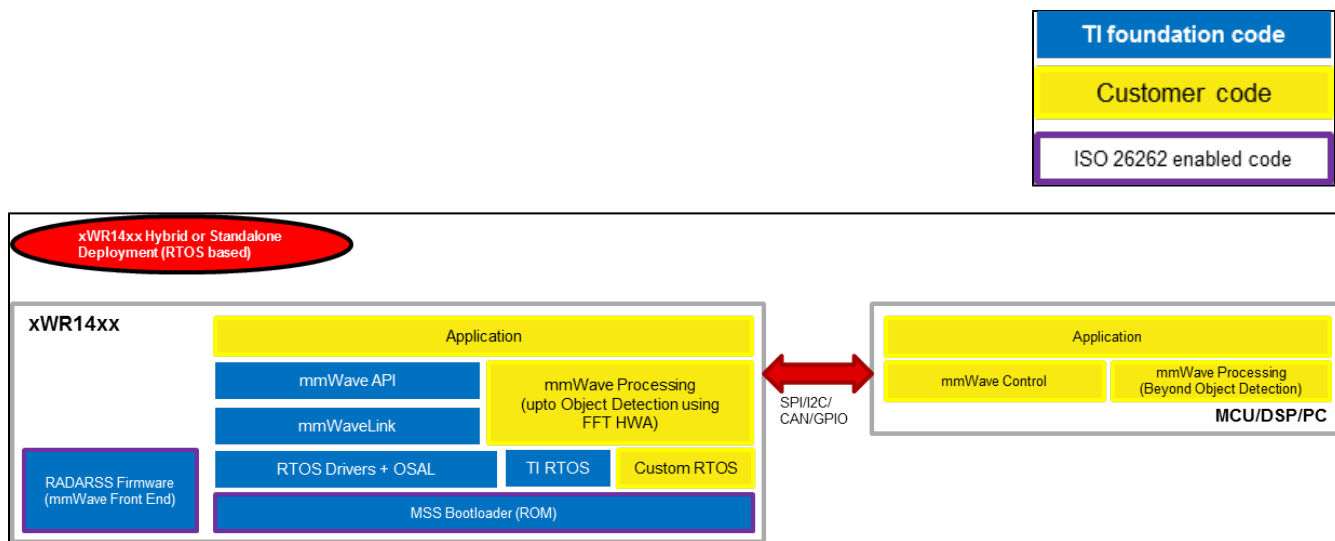
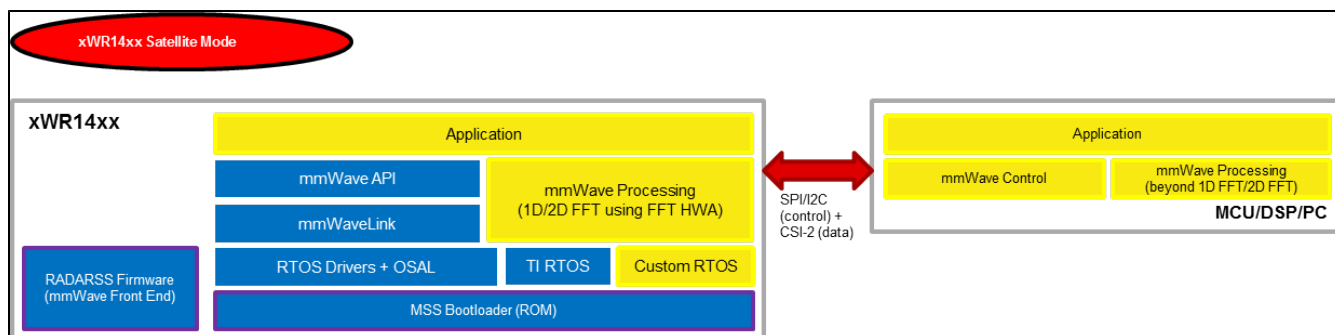

Figure 1: xWR14xx Deployment in Hybrid or Standalone mode
Figure 2: xWR14xx Deployment in Satellite mode
- Figure 1: xWR14xx Deployment in Hybrid or Standalone mode
- Figure 2: xWR14xx Deployment in Satellite mode
These deployments are depicted in the Figure 1 and Figure 2.